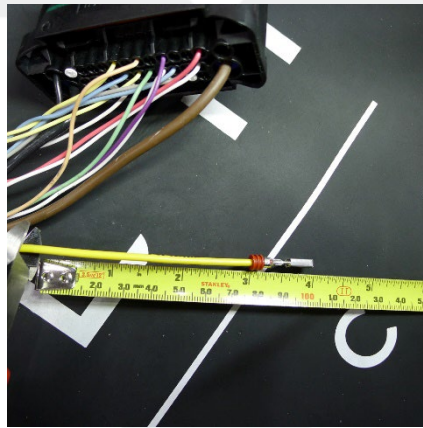

Figure 22
20. Cut the yellow power terminal wire 100 mm from the end (Figure 22), and then discard the end.